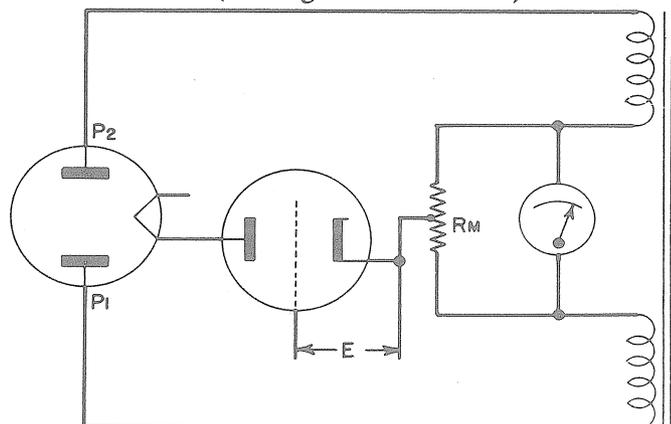

Figure 2-2. Basic Mutual Conductance
b. If the electron tube to be tested is substituted for the fixed load resistance, and a fixed bias E is applied to the tube as in figure 2-2, the meter will still read zero because an electron tube under steady-state conditions acts like a fixed resistance.